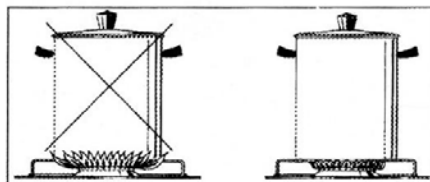

Fig. 12
- Use suitable pans for each burner ( see tab. n° 4 and Fig. 12 ).